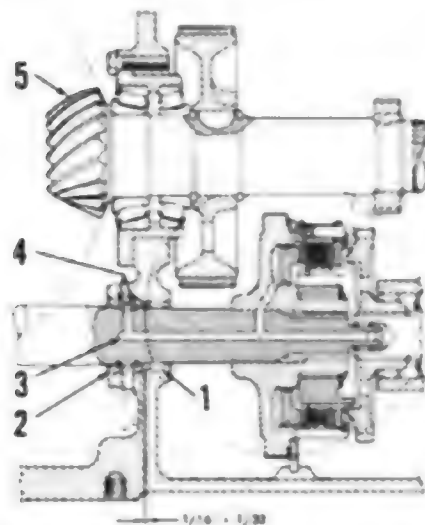

Fig. 166—Sectional view of the pto clutch. Refer to text.
With unit disassembled, clean and inspect all parts and renew any showing excessive wear or other damage. Pay particular attention to the clutch discs which should be free of scoring or warpage. Use all new "O" rings, seals and gaskets during reassembly. The bushing (2—Fig. 166) for the 1000 rpm output shaft or lower drive shaft is in the front of differential compartment. This bushing should be renewed if a new output shaft is required or if the sealing rings have grooved the bushing. When installing bushing (2), bottom it in bore.
Position the needle bearing to within 1/16-inch plus or minus 1/32-inch of the front face of bushing as shown in Fig. 166.